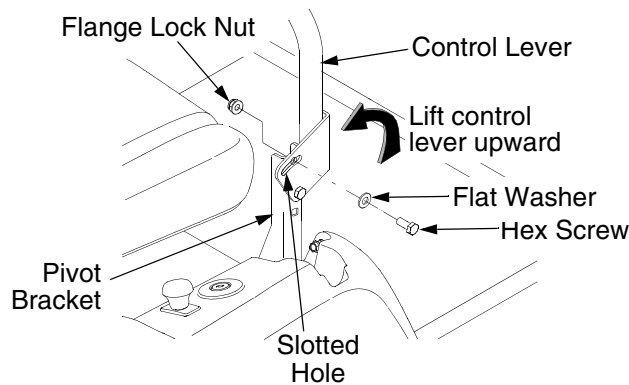

Figure 2
- Lift and swing that control lever upward until the slotted hole in the lever bracket aligns with the hole in the pivot bracket. Refer to Figure 2.
- Slide the flat washer onto the hex screw. **From the outside**, insert the hex screw w/washer through the control lever slot and the hole of the pivot bracket. Secure with the flange lock nut. See Figure 2.